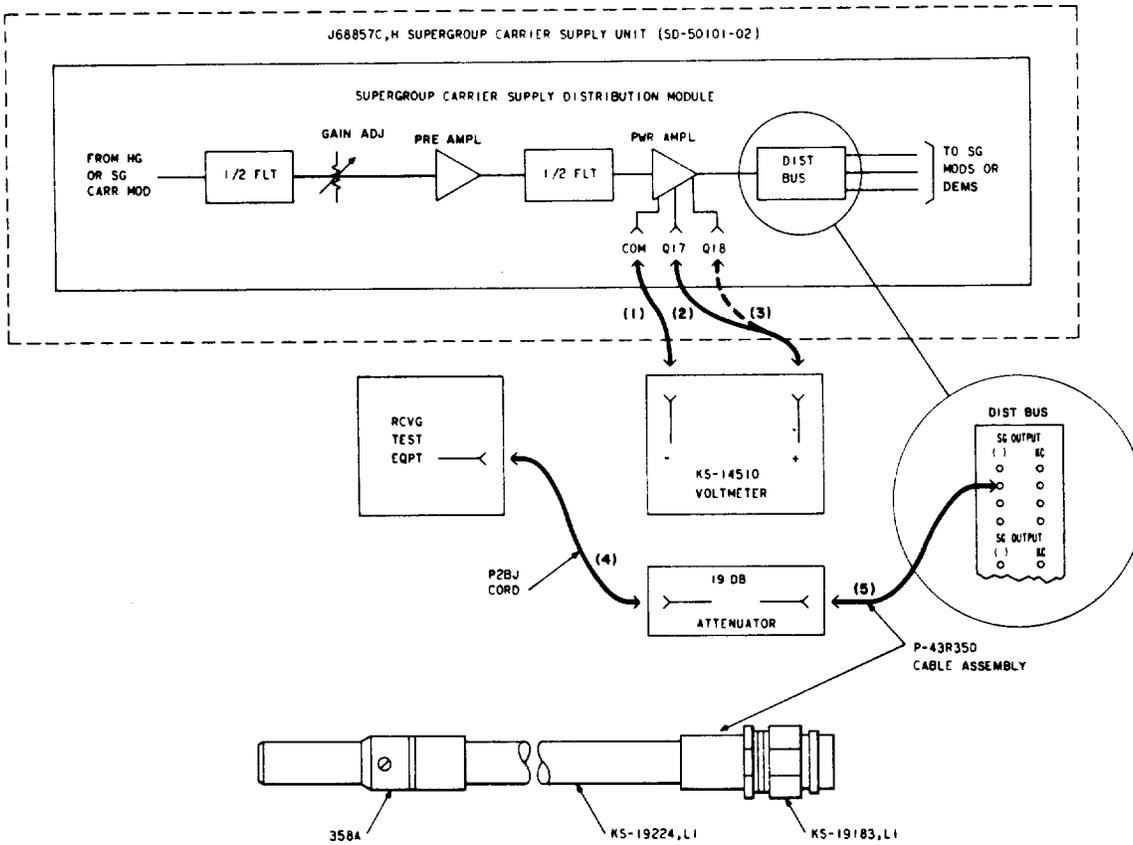

Fig. 3—Supergroup Carrier Supply—Distribution Amplifier Output Power and Voltage Measurements
2	Make VOM test connections indicated in Table A for the supergroup distribution amplifier to be tested [patches (1), (2), and (3), Fig. 3].
12	Make patches (4) and (5) in Fig. 3.